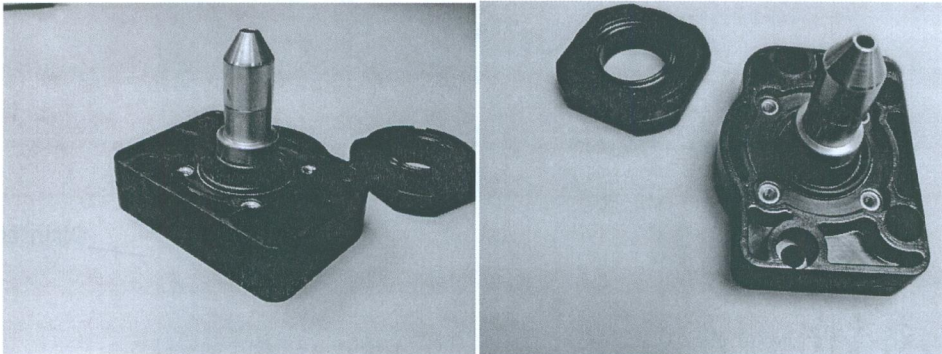

Fig 9
10. Pull the plunger out. See figure 9.